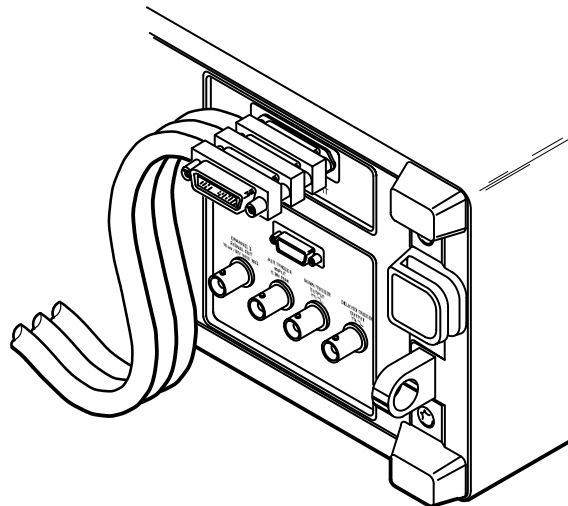

Figure 3-60: Stacking GPIB Connectors
**Connector** — A 24-pin GPIB connector is located on the oscilloscope rear panel. The connector has a D-type shell and conforms to IEEE Std 488.1–1987. You can stack GPIB connectors on top of each other (see Figure 3-60).